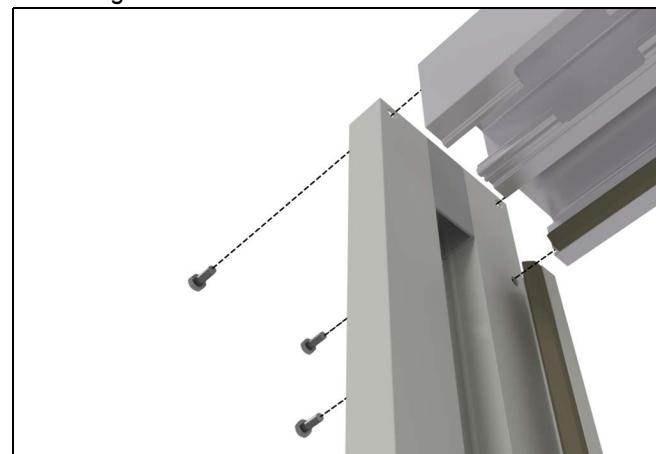

Figure 4
- Assemble left hand jamb to Track Top using three #12 x 1 ½ TEK Hex Head screws. See Figure 4.
- Assemble right hand jamb to Top using three #12 x 1 ½ TEK Hex Head screws. See Figure 4.